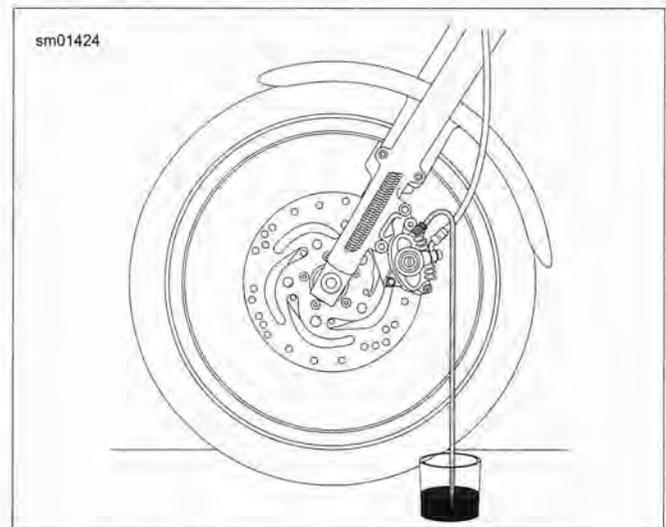

Figure 2-51. Bleeding Hydraulic System
2. See Figure 2-51. Install end of a length of 5/16 in (7.9 mm) I.D. clear plastic tubing over caliper bleeder valve, while placing free end in a suitable container. Open bleeder valve about 1/2 turn. Pump brake hand lever repeatedly to drain brake fluid. Close bleeder valve.